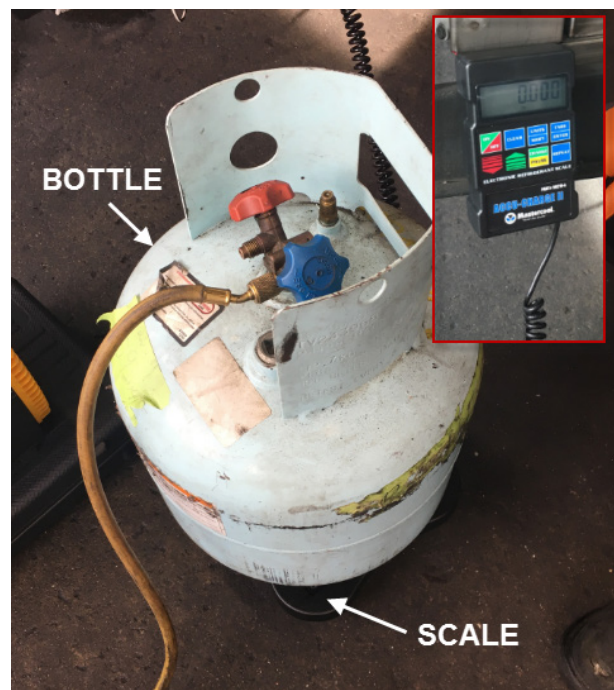

FIGURE 1: WEIGHTING THE RECOVERY TANK
1. Weight the refrigerant recovery bottle (figure 1).